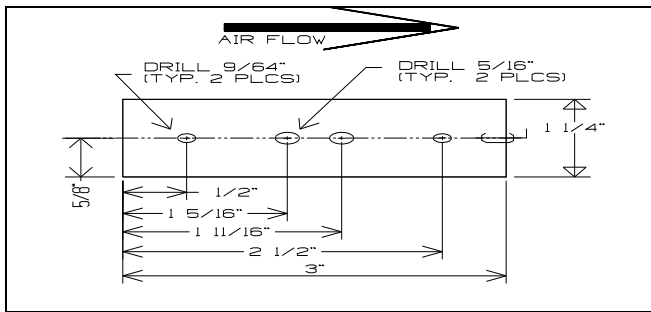

Figure 4: *Duct Probe Installation Dimensions*
- 2) Mark and drill the four holes for the duct probe as shown in Figure 4. The centerline must be parallel to the air flow through the duct.